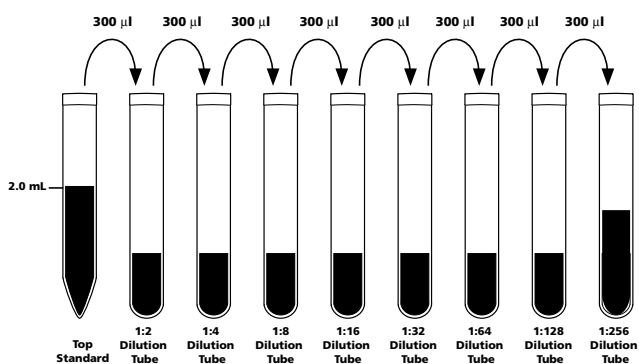

Figure 2. Preparation of Human Inflammatory Cytokines Standard Dilutions
5. Perform a serial dilution by transferring 300 µl from the Top Standard to the 1:2 dilution tube and mix thoroughly. Continue making serial dilutions by transferring 300 µl from the 1:2 tube to the 1:4 tube and so on to the 1:256 tube and mix thoroughly (see *Figure 2*). **Mix by pipette only, do not vortex.** Prepare one tube containing Assay Diluent to serve as the 0 pg/ml negative control.